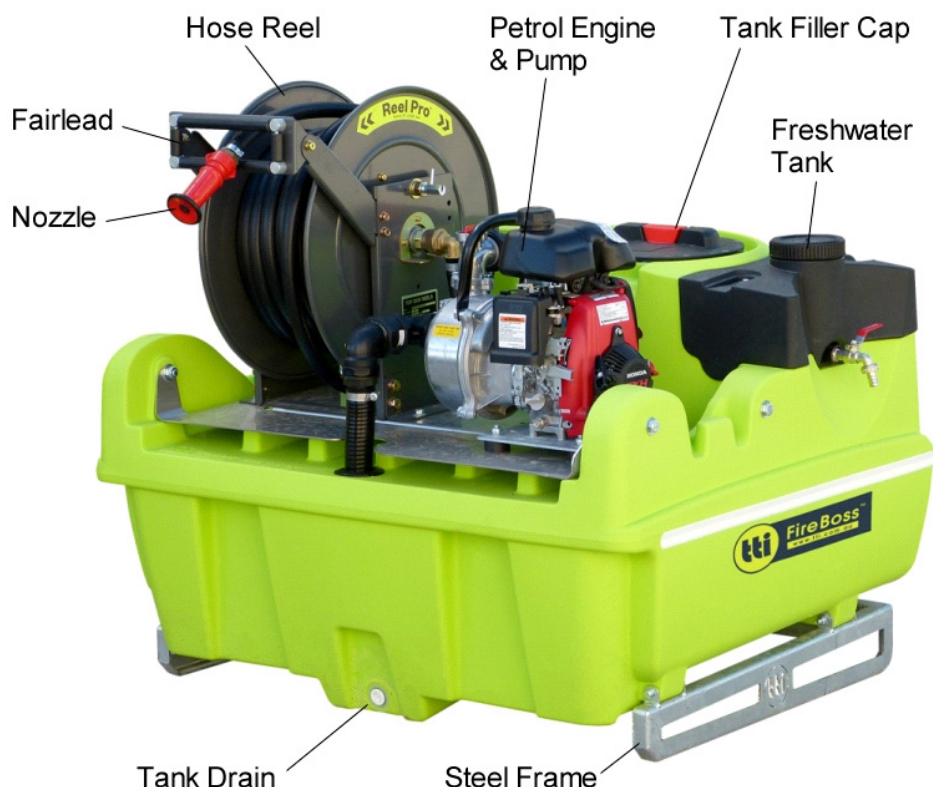
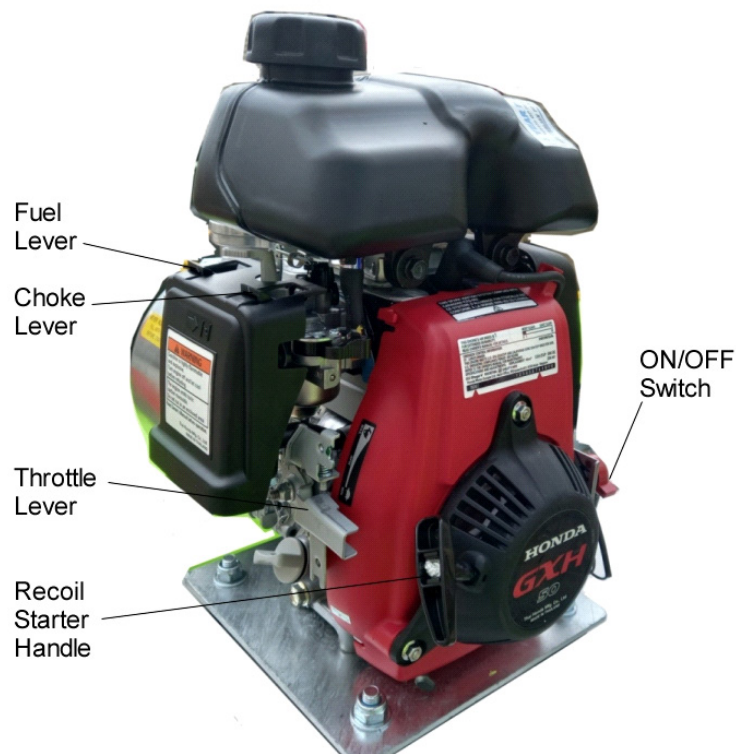

Figure 2 – Component Identification (Compact FireBoss)
Figure 3 – Engine Start-up
The TTi FireBoss is designed to carry and distribute water using a self-contained pump and hose reel dispensing system, refer to Figure 2, which shows the Standard unit. The FireBoss is configured in two different styles, both designed to fit into the trays of UTVs:
The FireBoss has the following features, refer to Figure 2.
- Position your FireBoss onto the vehicle and mount securely, either using tie-down straps located into the tie-down recesses or lugs on both sides of the tank, depending on configuration, refer to Figure 2 and Figure 3 for locations. The tie-down straps must be rated to at least the total mass of the unit when filled with fluid. Alternatively, the integrated tank frame may be bolted to the vehicle.
The FireBoss's petrol pump engine is started as follows, refer to Figure 3: